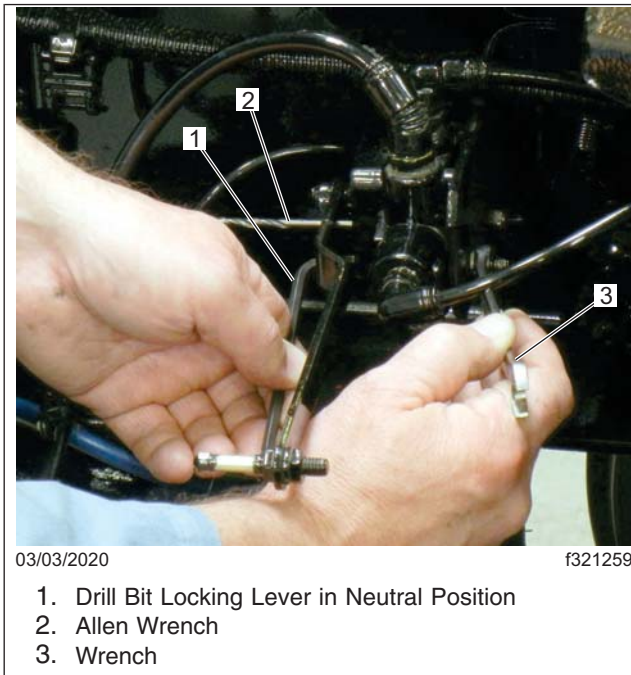

Fig. 2, Holding the Mounting Studs in Place With an Allen Wrench
- 7.1 While holding the height control valve mounting studs in place with an Allen wrench, remove the nuts and washers that attach the valve to the mounting bracket. See Fig. 2.
4. While holding the height control valve mounting studs in place with an Allen wrench, loosen the nuts that attach the valve to the mounting bracket. See Fig. 2.